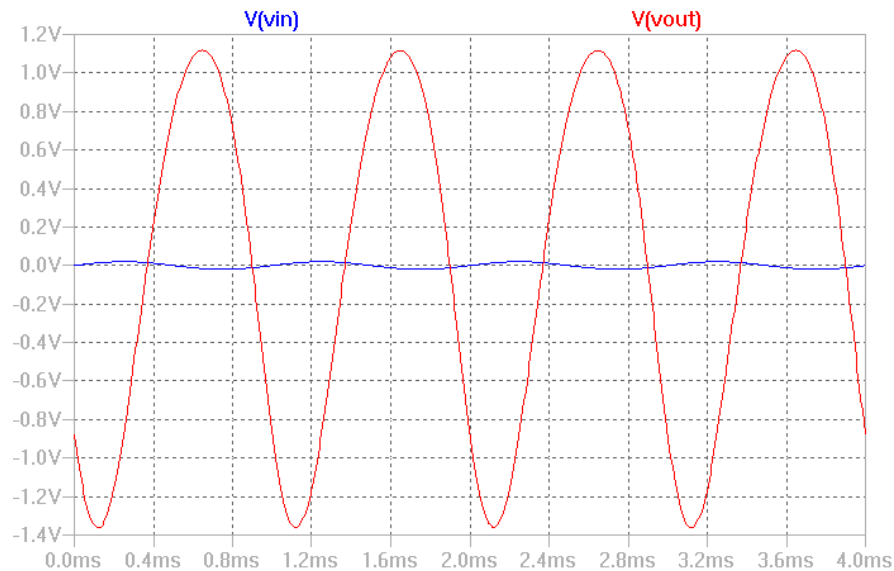

Figure 2.12: Transient analysis plot of the input and output voltage for the CE amp.
- Also play around with the “tools” menu item “color preferences”. For embedding figures into a Word document, the format of Figure 2.12 is **much better** than a figure with a dark background. Do not use a dark background for any work you will turn in.
- When you move the cursor over the schematic, it will turn into a probe icon. Move this icon over v_{in} and click; repeat for v_{out} . You should see a plot similar to Figure 2.12.
- Notice the first peak appears a bit higher than the ones to follow. This is a result of seeing the amplifier in action before it has had a chance to "warm up". Instead, set the stop time at 8ms and the time to start saving data at 4 ms. Place this new simulation command in the schematic window and run another transient simulation. The result is shown in Figure 2.12.